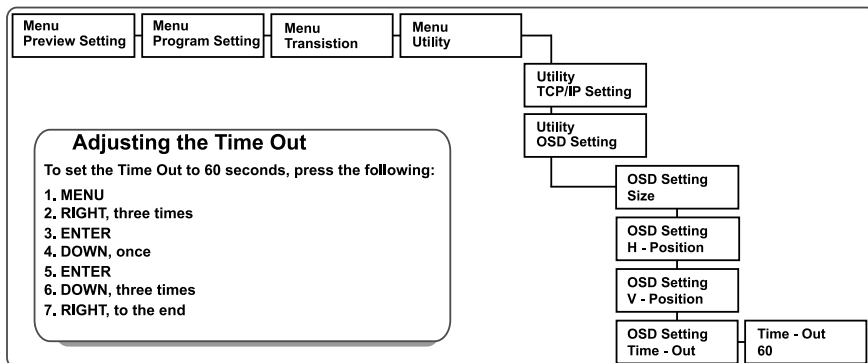

Figure 23: Example of how to use the LCD Display
2. Press the appropriate front panel OSD buttons (as defined in Figure 23).